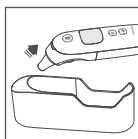
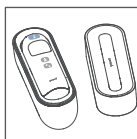

Figure 3
Figure 4
1. Take the infrared ear thermometer out of the protective case, as shown in figure 3 or figure 4. If the model is equipped with a cover, remove the cover.